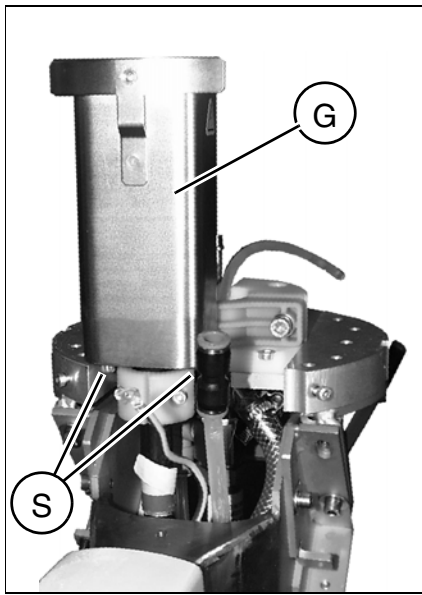
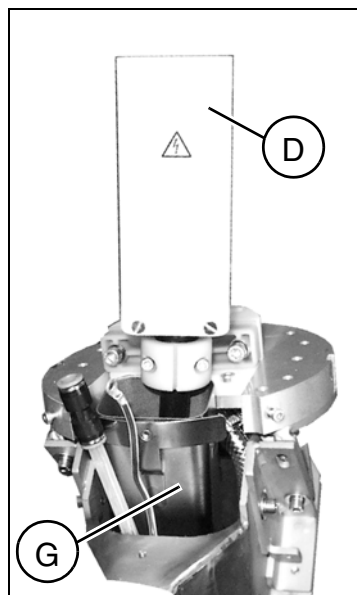

Fig. 15
Fig. 16
- Push the high voltage cable (HK/Fig. 16) in the direction of the shock wave head through the corrugated tubing until the high-voltage connector is accessible (Fig. 15).
- Remove the screws (S/Fig. 15) on the high voltage connector.
- Push the metal housing (G/Fig. 16) above the high-voltage plug toward the back.
- Open the cover (D/Fig. 16) of the high-voltage connector.